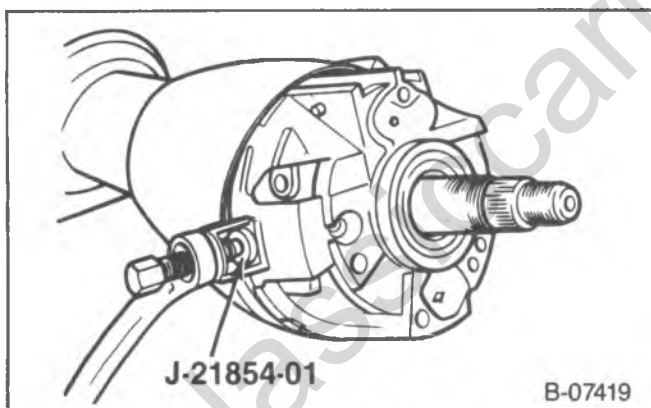
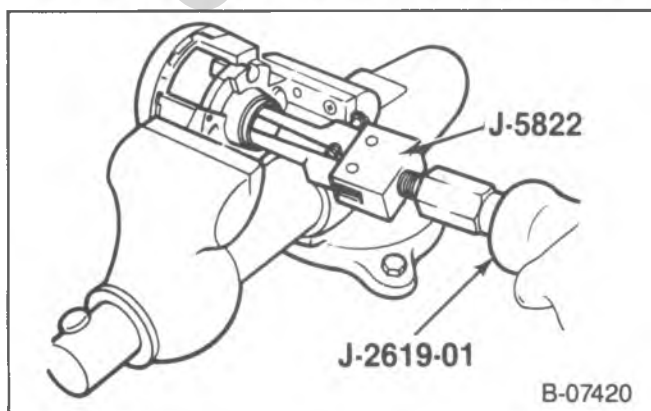

Figure 45—Bearing Housing Pivot Pin Removal
Figure 46—Bearing Race Removal
4. Retainer (230) and spring (232). Use a screwdriver to turn the retainer until it aligns with the grooves in the housing, then remove the retainer and spring.
5. Upper bearing nut (253).
6. Seat (254) and race (255).
7. Housing pivot pins (221). Use J-21854-01 (figure 45).
8. Bearing housing (219). Pull up on the tilt release lever, this will disengage the shoes (224), and remove the housing.
- Remove the bearing races using J-5822 and J-2619-01 (figure 46).